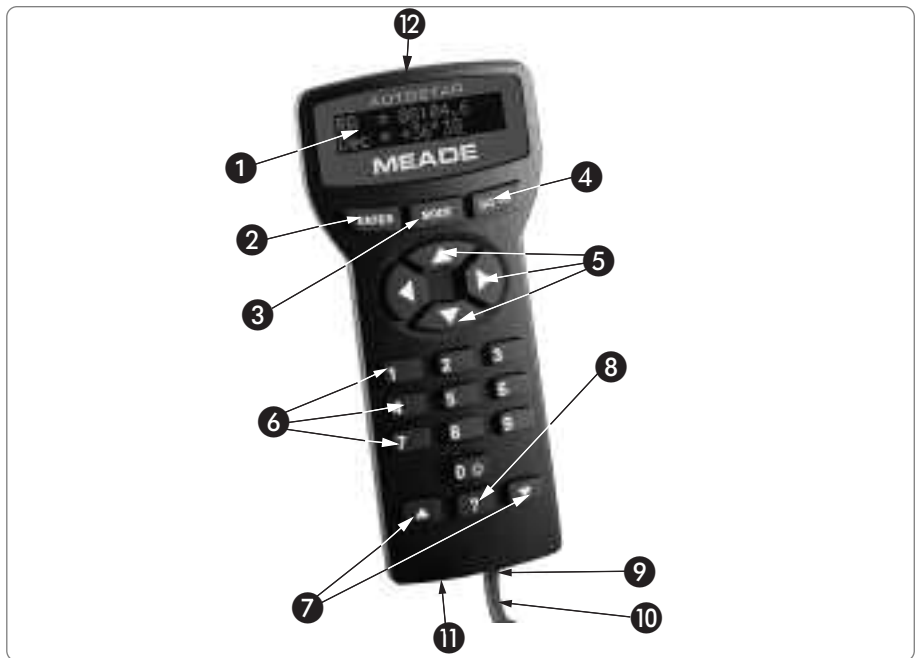

Fig. 2: The Autostar Handbox.
- A. **Handbox (HBX) Port:** Plug the Autostar or EC handbox coil cord (10, Fig. 2) into this port.
- 26 **Latitude Adjustment T-Handles (2):** Sets the latitude of your observing location. The two T-handle screws work in a "push - pull" operation—as you tighten one, loosen the other.
Note: If **MODE** is pressed and held for two seconds or more, information about the telescope's status displays. When the status displays, press the **Scroll** keys (7, Fig. 2) to display the following information and more: